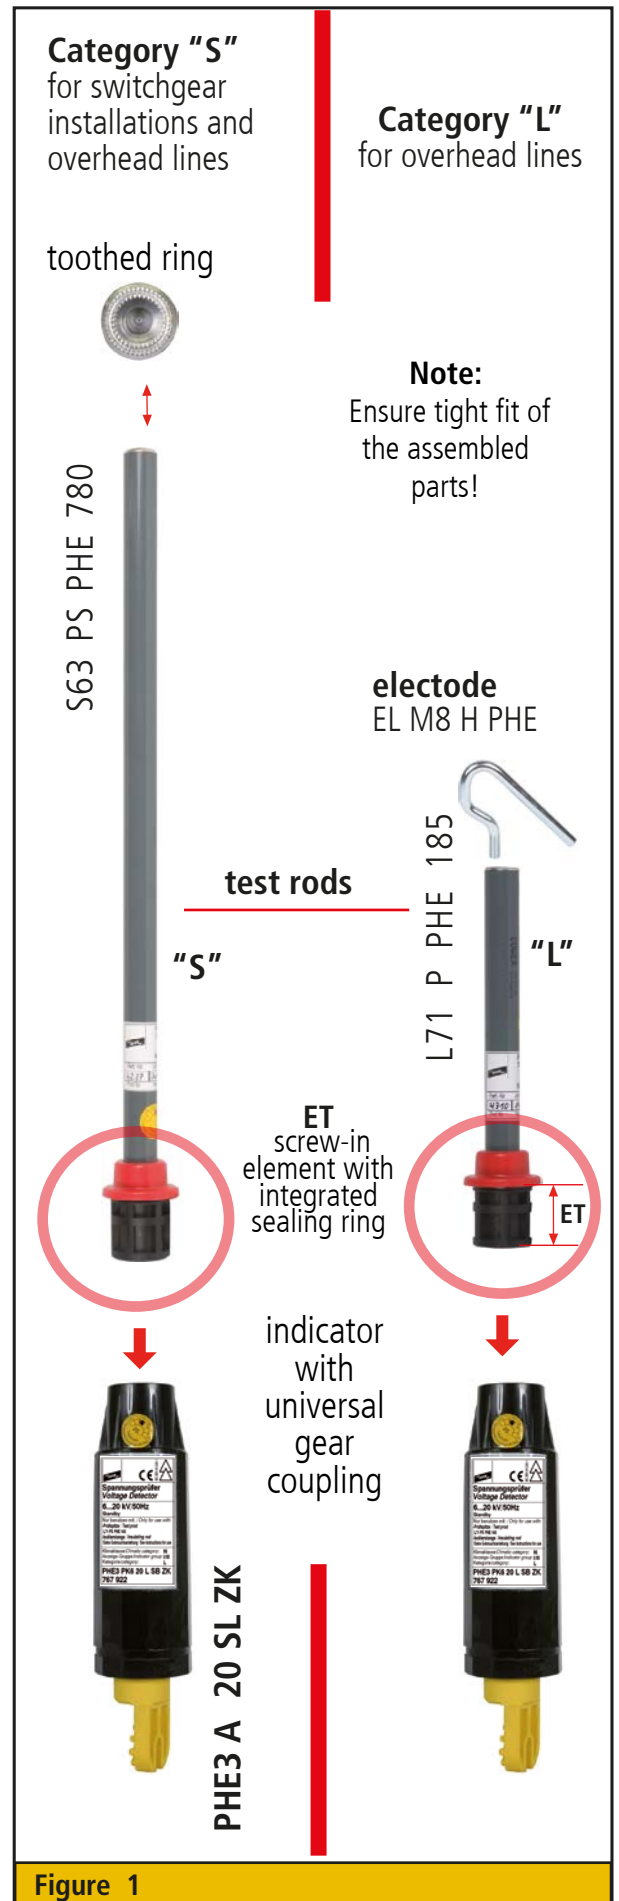

Figure 1
The PHE III electronic indicator series includes voltage detectors of category "S" and "L". Voltage detectors of category "S" (switchgear) can be used in switchgear installations and overhead lines. Voltage detectors of category "L" (line) can be used for overhead lines (see Fig. 1).
The top end (test electrode) of category "S" and "L" test prods of the PHE III electronic indicator series is fitted with a toothed ring for safe contact with the part of the installation (see Fig. 1).
PHE III electronic indicators are separate devices in accordance with IEC/EN 61243-1 (DIN VDE 0682 Part 411). Voltage detectors as separate devices consist of an indicator and a test prod (see Fig. 1).
To assemble the electronic indicator, simply screw (clockwise) the test prod into the relevant indicator. Before assembly, check the sealing ring in the screw-in element (ET) for tight fit and ensure that it is in good order and condition. The sealing ring must not be damaged (brittle or ripped). Replace damaged sealing rings by original sealing rings (see Fig. 1, detail and 9. on page 21).